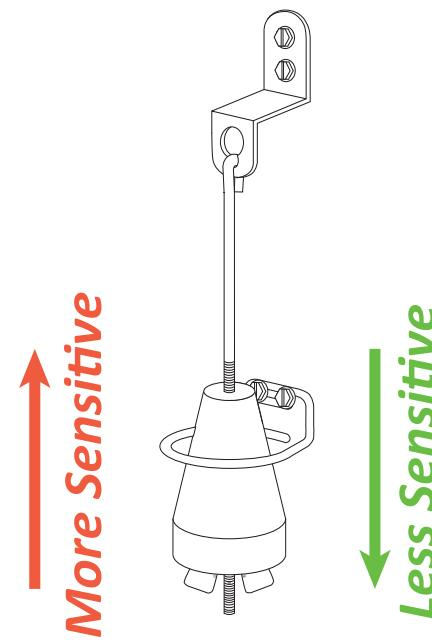

Figure A15. Assembled plumb bob tilt mechanism.
16) Locate the plumb bob weight and nylon wing nut in the loose parts. Locate the plumb bob tilt hanger wire and contact brackets, mounted on the inside, left sidewall of the lower cabinet. Slide the weight onto the straight end of the hanger wire and thread the wing nut onto the shaft underneath it (figure A15). Raising the weight higher up the hanger wire (by tightening the wing nut underneath it) makes the tilt mechanism more sensitive; lowering the weight makes it less sensitive. Carefully lower the playfield and slide it straight back into the cabinet, ensuring that the two hanger brackets rest in the slots in the lockdown bar receiver channel. Carefully reinstall the playfield glass and lockdown bar by reversing the steps in **10)** above.